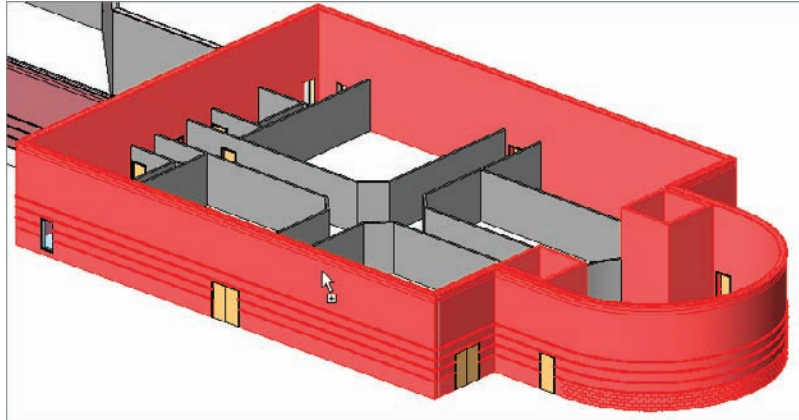

FIGURE 3.20 Selecting the walls that extend to the Parapet level
2. The next step is to select all the walls you want to be extended to the Parapet level. In this case, only the east building will go all the way up to this level. Select the walls as shown in Figure 3.20. (Be sure to select all of the elevator shaft walls as well.) You must hold the Ctrl key to add to the selection. The walls turn blue when they are selected.